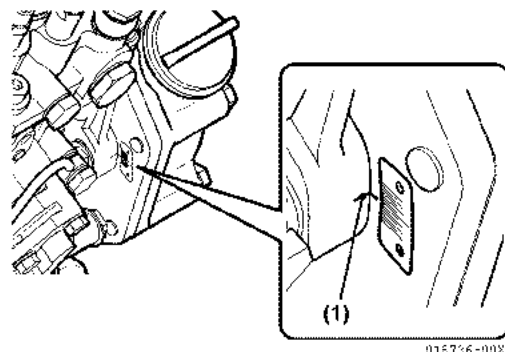

**Figure 6-46**
- If the difference between the timing index numbers is a positive (+) number, the fuel injection pump mounting position must be advanced (**Figure 6-46, (2)**) (rotated away from the engine) as compared to the "standard mark" (**Figure 6-46, (1)**) by the calculated positive (+) amount; adjust the fuel injection pump to the calculated value.
- If the difference between the timing index numbers is a negative (-) number, the replacement injection pump must be retarded (**Figure 6-46, (3)**) (rotated toward the engine) by the calculated negative (-) amount.
The above calculated difference indicates that the replacement fuel injection pump is to be installed at +0.5° (advanced) from the "standard mark" (**Figure 6-46, (1)**) on the timing sticker.